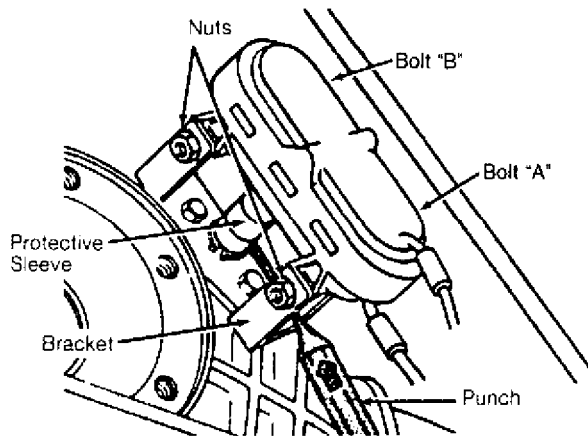

Fig. 1: Removing Differential Lock Servo (Vanagon)
3) Loosen clamp securing cooling hoses to chassis. Wire hoses aside. Remove bolt "A" from differential lock servo. Loosen bolt "B" and withdraw as far as possible. Lack of clearance prevents complete removal of bolt "B". See Fig. 1.
4) Push back protective sleeve and drive out spring pin. With bolt "B" withdrawn as far as possible, give servo a slight upward twist and remove from bracket. See Fig. 1.